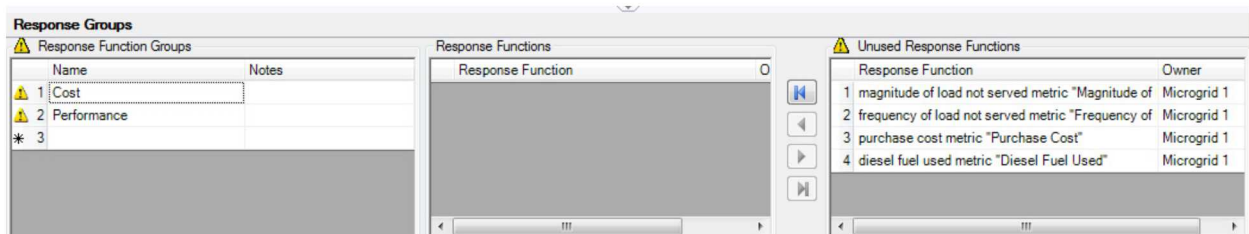
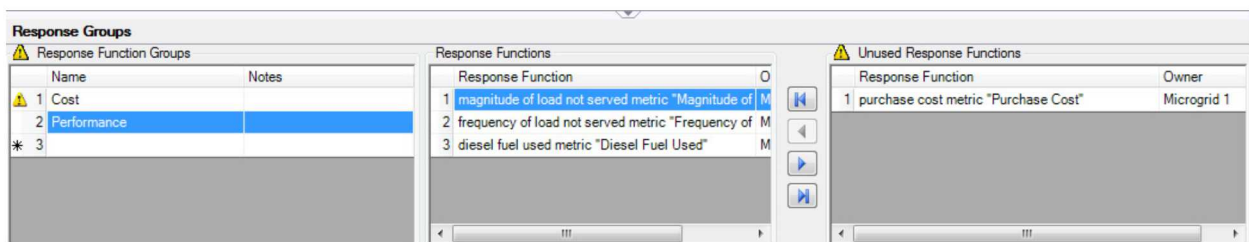

Figure 49. The "Cost" Response Function Group is empty. It contains no metrics.
Figure 50. The "Performance" Response Function Group contains three metrics.
3. Review the metrics in each group (Figure 49, Figure 50).
4. Click the right arrow button to remove the metric from the group (see Figure 50).